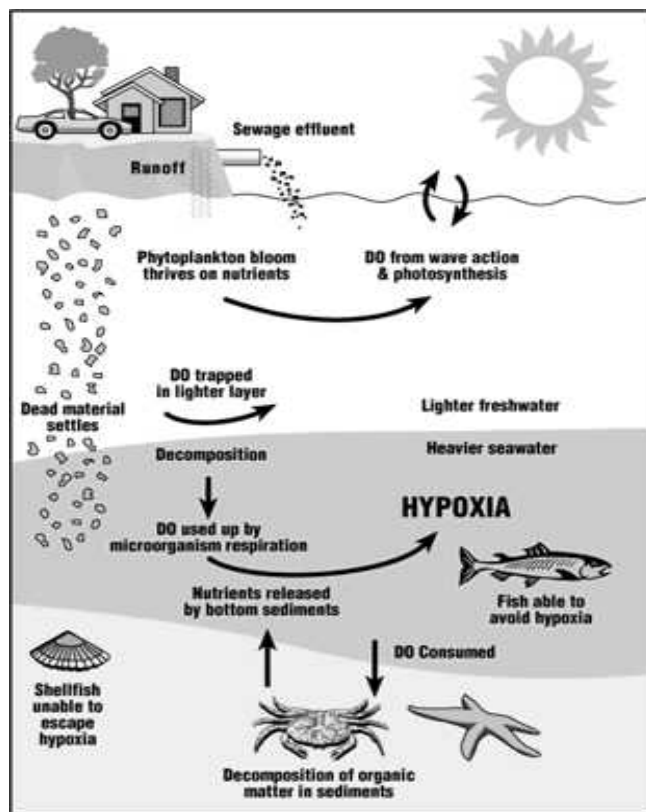

Figure 4-1. Processes affecting dissolved oxygen levels (from *Volunteer Estuary Monitoring: A Methods Manual, Second Edition*).
Oxygen is found in aquatic systems as dissolved oxygen (DO) which enters the systems from the atmosphere and from photosynthesis of aquatic plants (Figure 4-1). Currents and waves help introduce oxygen into the aquatic system due to more water being in contact with the atmosphere and better mixing of surface and deeper waters.
Dissolved oxygen concentrations are affected by a number of variables such as time of day, depth, temperature, and salinity. Typically, DO concentrations of surface samples are highest around mid-day due to photosynthetic activity of aquatic plants. During the night, DO concentrations decline as DO is consumed through respiration while photosynthesis is halted due to the lack of sunlight. Therefore, DO levels are typically lowest in the early morning. Salt water cannot hold as much DO as fresh water (Figure 4-1). Lower DO concentrations are expected during the summer, since warm water cannot hold as much DO as cold water.